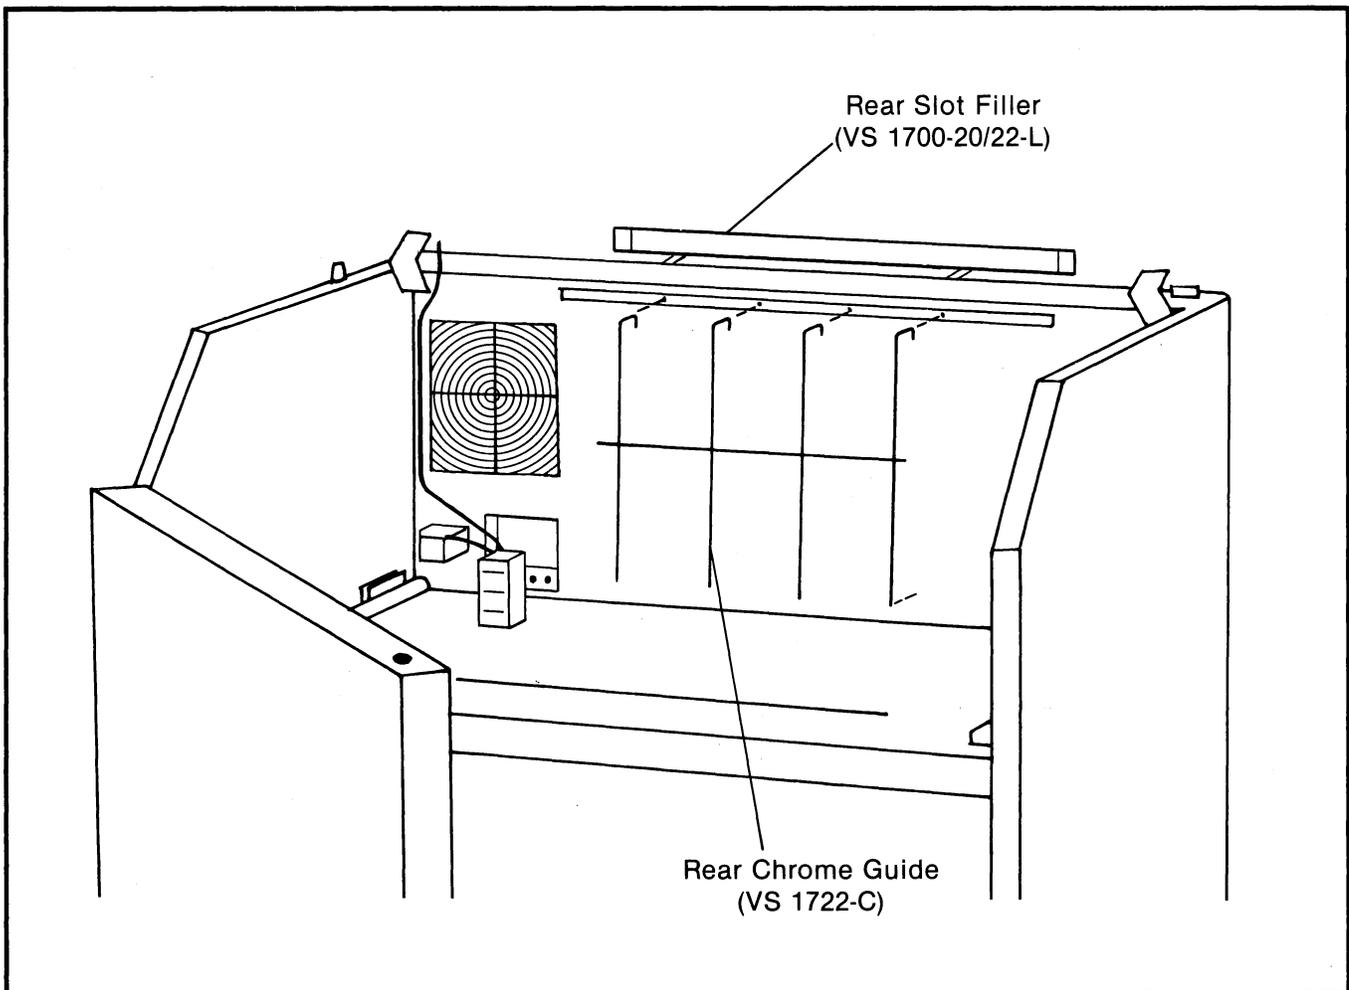

Fig. 5
**3.06** Internal paper handling is accomplished by hanging rear chrome guide (VS 1722-C) (Fig. 5) in holes provided in front of rear paper exit slot.
**3.07** External paper flow is accomplished by first removing rear slot filler. (VS 1700-20/22-L) (Fig. 5)